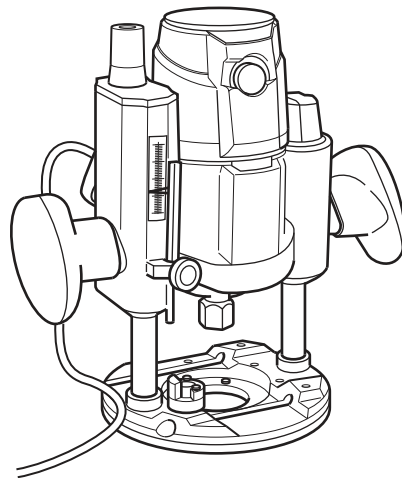

Fig. 11.3
- (ii) Fig. 11.3 shows a portable power tool that could be used to cut the through housing joints.